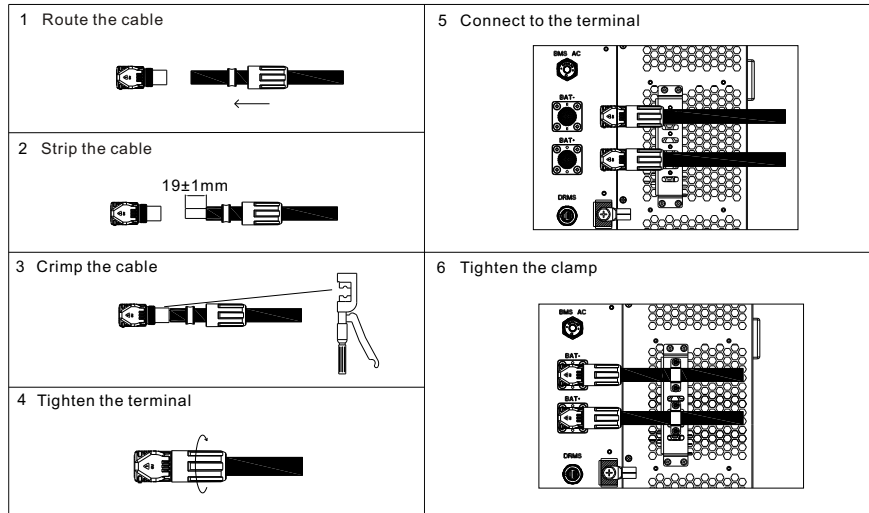

Fig 6.6 Position of the battery terminals
1. Connect the ground cable to the battery power ground bar, as shown in Fig 6.6;
4. Connect the battery cables to the battery terminals on the inverter, as shown in Fig 6.6;
5. After connecting the main battery power cables, bind power cables at the reserved position, as shown in Fig 6.6.
1. Connect the ground cable before connecting the battery cable; the ground point is shown in Fig 6.6.
1. Open the cover plate on the right side of the inverter, the position of which is shown in Fig 6.6;